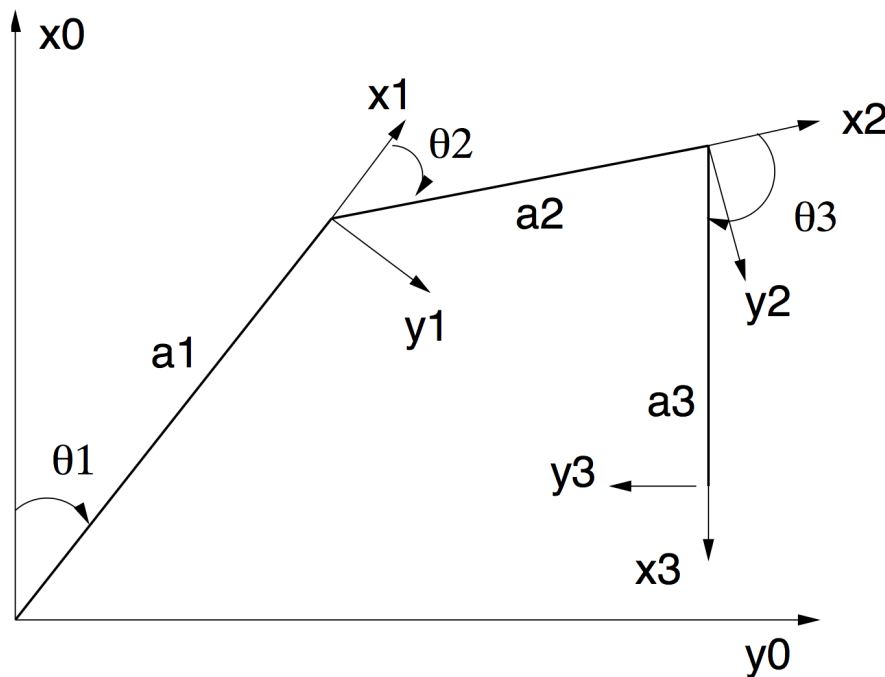

Figure 1: 3-joint planar manipulator.
Task 2.1: (3 points) Consider the planar robot manipulator shown in figure 1 with the joint angles θ_1 , θ_2 and θ_3 constrained by the following relation: $\theta_3 = 180^\circ - \theta_1 - \theta_2$.
2.1.1: Determine the partial homogeneous transformations ${}^{i-1}A_i$, $i = 1, 2, 3$ for each of the coordinate frames shown in figure 1 and show the planar manipulator transformation ${}^0T_3 = {}^0A_1 {}^1A_2 {}^2A_3$ to be equal to